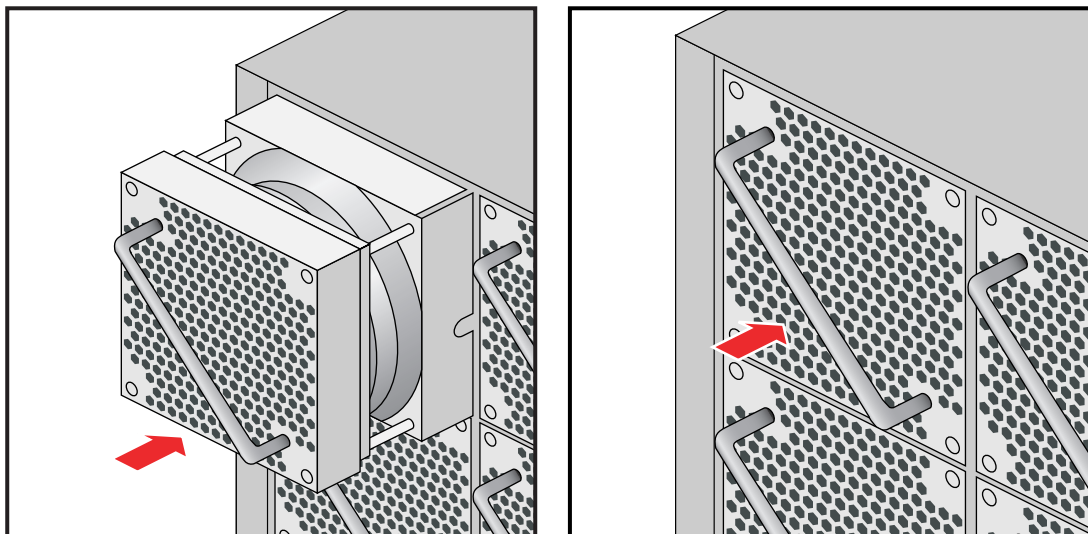

Figure 6-8 Replacing an Enclosure Fan
3. Slide a new blower assembly completely into the open slot until the fan-interconnect engages and the new unit is flush with the rear of the assembly, see Figure 6-8 on page 75.